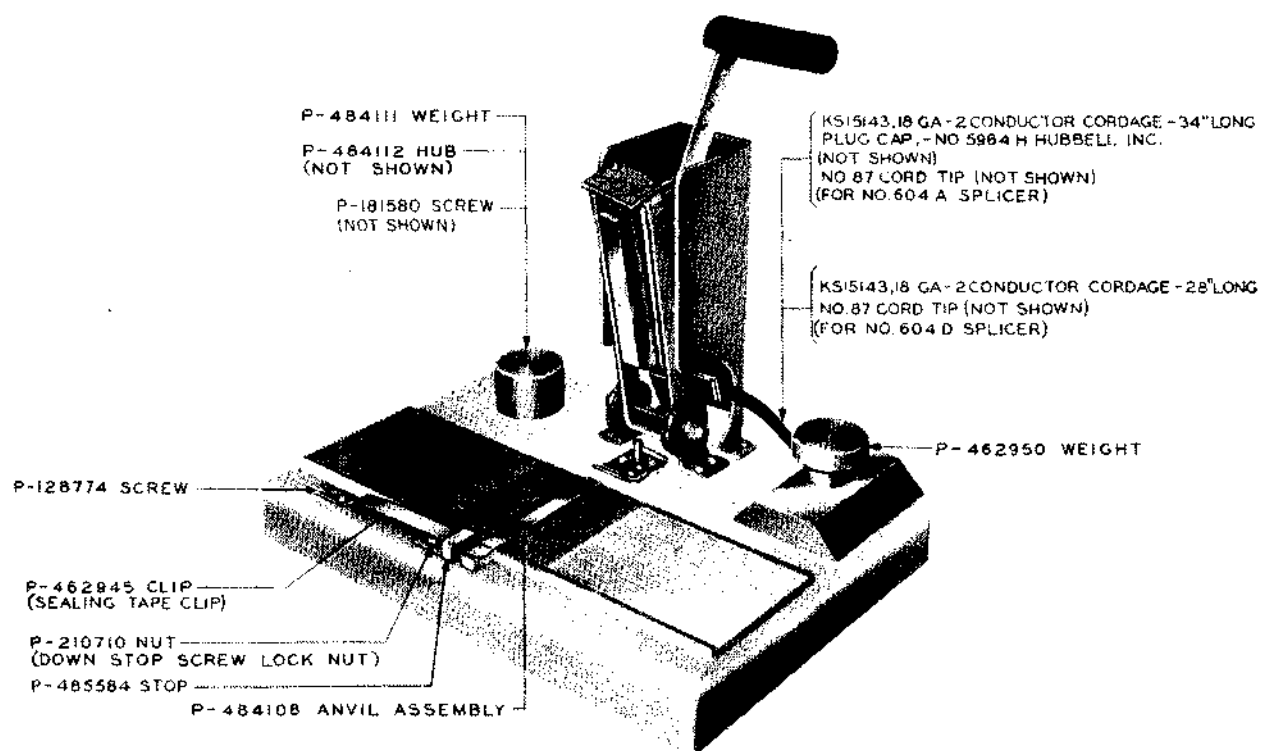

Fig. 1—604A and D Splicers (604D Illustrated)
**1.02** This section is reissued to add 1.05, to make corrections to Fig. 1, 2, 3, and 5, and to make other minor changes.